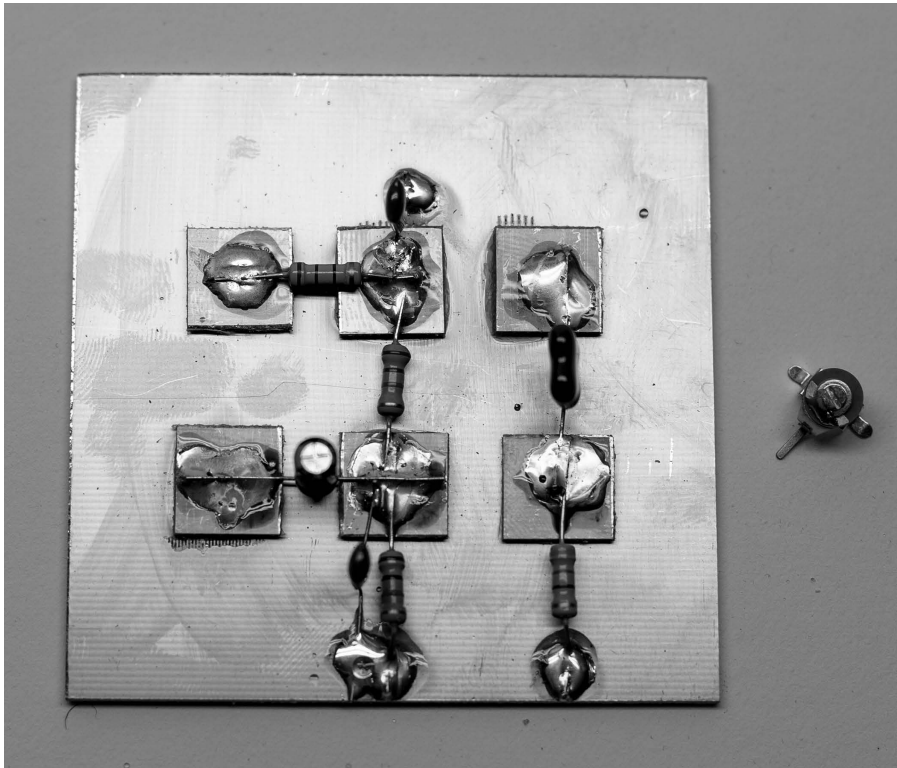

Figure 27.7 Fixed capacitors in place, trimmer cap with bent leads.
The 0.01 uf (103) film capacitor goes between chiclet #2 and the ground plane. Bend the leads so that the body of the capacitor is perpendicular to the ground plane. Solder and trim. The 10 pf (10) mica capacitor connects chiclets #3 and #4. Bend leads so it stands vertically and then solder and trim. The last capacitor is another 0.01 uf (103) film capacitor. Solder it between chiclet #5 and the ground plane and trim (Figure 27.7).